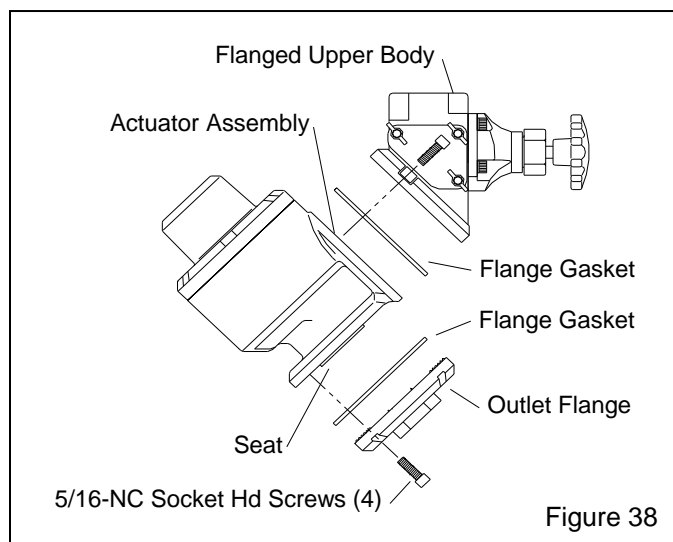

Figure 38
7.7 Auto Quantum Actuator Segment, Ref. Figures 38 and 39
7.7.3 Refer to Figure 38 and remove the screws securing the upper body and outlet flange to the valve actuator assembly, and then remove the actuator assembly.